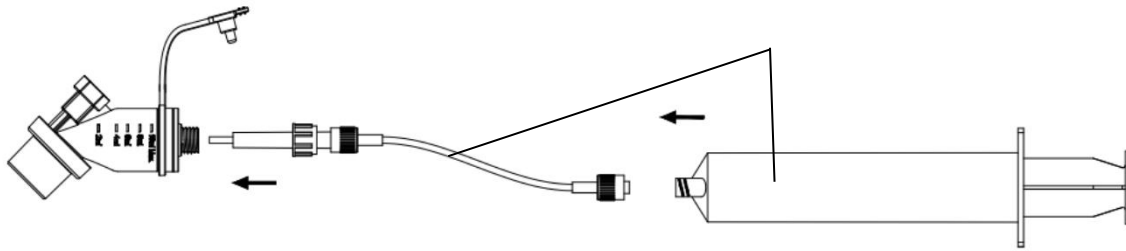

Figure 4. Add medicine liquid
Step 2: Connect the Medication Cup and Syringe component according to Figure 4.